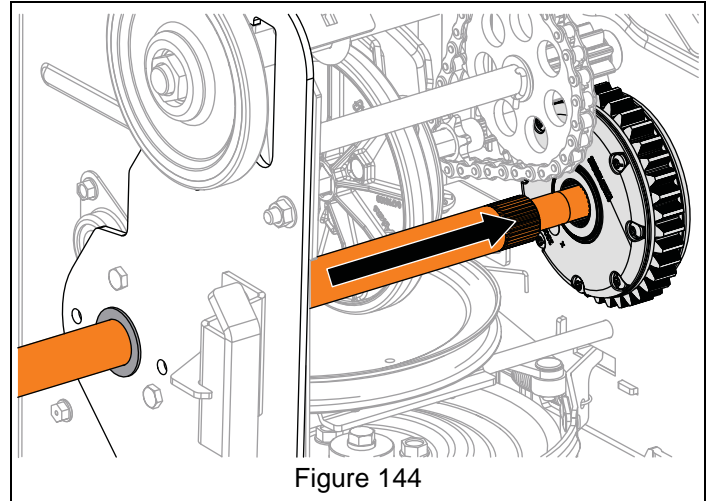

Figure 144
3. Reinstall stepped-down end of long axle through side plate, frame and into differential gear. See Figure 144.